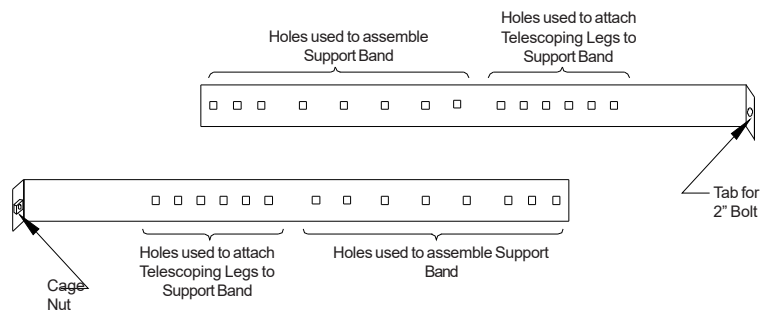
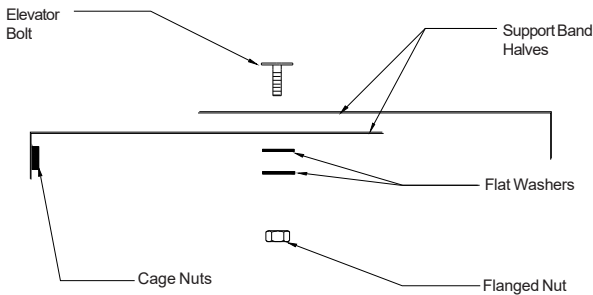

Figure 28 Support Band Holes Identifier
Figure 30 Topview assembly of Support Band - Elevator Bolt, Washers and Nut
17. For lateral stability of the chimney above the Wall Support, a Wall Band must be installed along an outside wall if the chimney is installed at 2" from the vertical wall and follow steps 17 to 19. Where horizontal adjustability is needed (more than 2" from the vertical wall), a Universal Wall Band can be used. For more detailed instructions see Steps 20 through 28 and Figures 30 through 33.
21. Place the two halves of the UWB Band as shown in Figure 21. Insert the flat head bolt through the middle set of holes in the band halves marked with the corresponding pipe diameter of the chimney being installed. (Ex. - for a 6" chimney, place the flathead bolts through the holes marked 6). The bolt should pass through the band halves with the tabs oriented outward (See Figure 30).
22. Place the Spacer Clip on the bolt used in the middle of the assembly and secure with washers and nut (See Figure 30).
- A. Measure the outside (OD) diameter of your chimney.
- B. From the single row of holes (see Figures 28 and 29), select the hole in each half that corresponds to the outside diameter identified with the chimney being installed. Place the two halves together. Insert an elevator bolt through the chosen holes (Ex - for a 10" OD chimney, place the elevator bolt through the holes identified for 10" OD). The elevator bolt should be oriented as shown in Figure 30. Secure the center bolt with washers and 1/4" flanged nut (see Figure 30). NOTE: On smaller diameter chimneys the excess band material can be cut off.